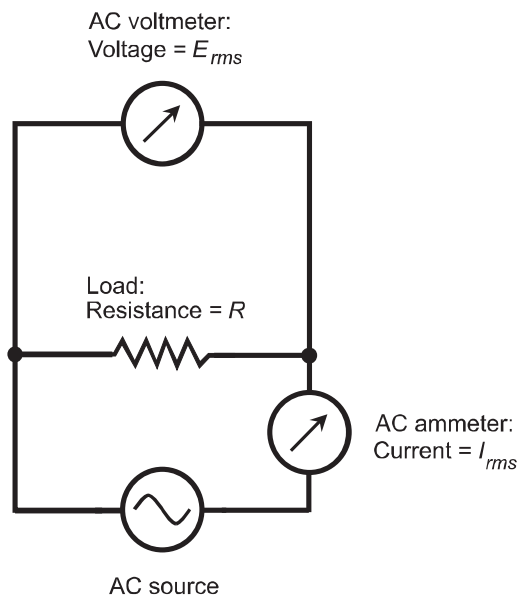

Fig. Test2-2. Illustration for Part Two Test Questions 10 through 14.
10. Suppose an AC source, a load, an AC ammeter, and an AC voltmeter are connected, as shown in Fig. Test2-2. The voltmeter and the ammeter both measure rms values. Assume the voltage source has
11. Suppose an AC source, a load, an AC ammeter, and an AC voltmeter are connected as shown in Fig. Test2-2. The voltmeter and the ammeter both measure rms values. Assume the voltage source has no DC component, and is a pure AC sine wave. If the voltmeter indicates 117 V and the ammeter indicates 500 mA, what is the resistance of the load?
12. Suppose an AC source, a load, an AC ammeter, and an AC voltmeter are connected, as shown in Fig. Test2-2. The voltmeter and the ammeter both measure rms values. Assume the voltage source has no DC component, and is a pure AC sine wave. The load resistance is known to be $117\ \Omega$. What is the rms current through it?
13. Suppose an AC source, a load, an AC ammeter, and an AC voltmeter are connected, as shown in Fig. Test2-2. The voltmeter and the ammeter both measure rms values. Assume the voltage source has no DC component, and is a pure AC sine wave. The load resistance is known to be $117\ \Omega$. What is the average voltage of the AC source?
14. Suppose an AC source, a load, an AC ammeter, and an AC voltmeter are connected, as shown in Fig. Test2-2. The voltmeter and the ammeter both measure rms values. Assume the voltage source has no DC component, and is a pure AC sine wave. The load resistance is known to be $117\ \Omega$. Then, suddenly, the load burns out, and an open circuit appears in its place. What happens to the voltmeter reading?